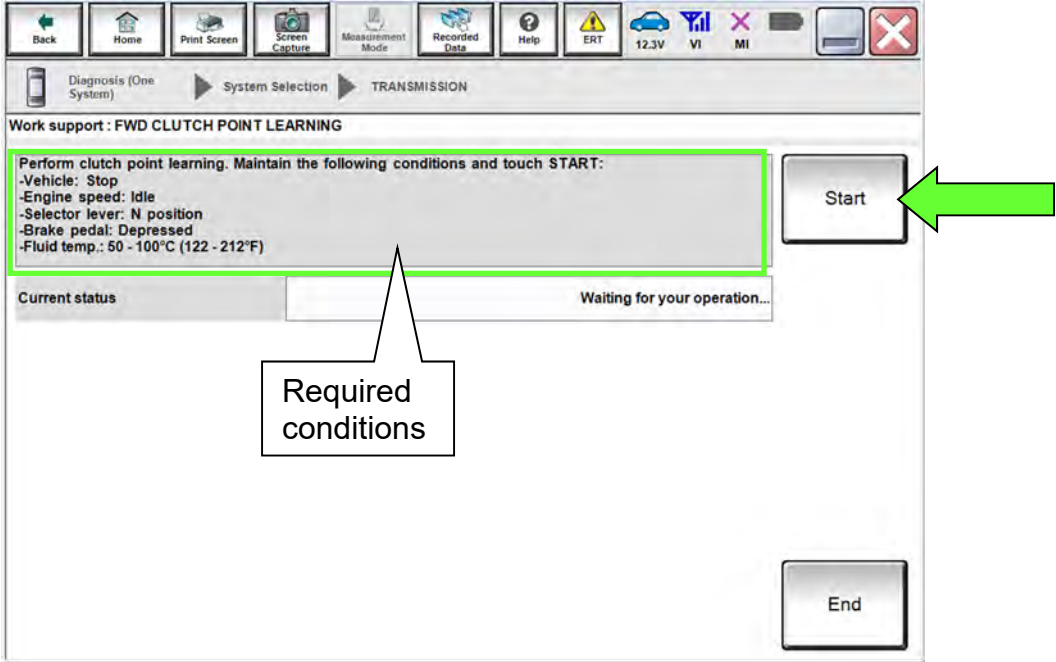

Figure 204
- Confirm that all of the conditions indicated in Figure 204 are being met.
196. While maintaining all conditions shown in Figure 204 and the Current status indicates EXECUTING, shift the CVT into **R** and then wait until the Current status indicates COMPLETED.